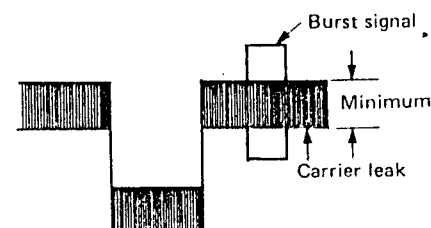

Figure 38.
- 1) Playback the alignment tape (PAL colour-bar signal) by using deck-(1) or (2).
- 4) Adjust R543 (carrier balance control) to minimize carrier leak as shown in figure 38.